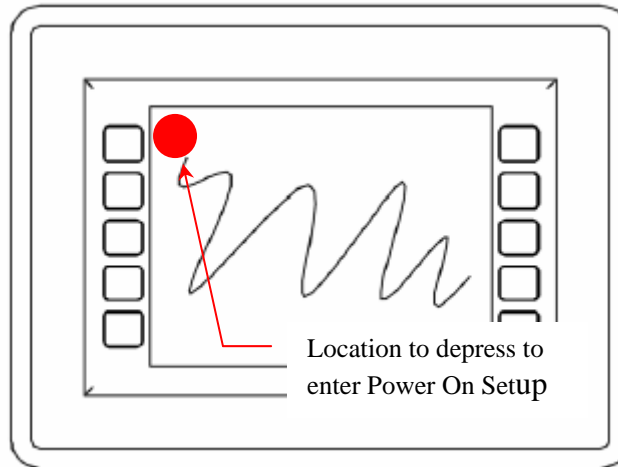

Figure 5: Illustration of where to depress the screen of the QTERM upon power up to reach the 'Power On Setup'.
- b. Power down the HMI, if not done so already. Depress the upper left corner (see figure 5) of the HMI screen and power up.
- c. Power down the HMI, if not done so already. Depress the upper left corner (see figure 5) of the HMI screen and power up.